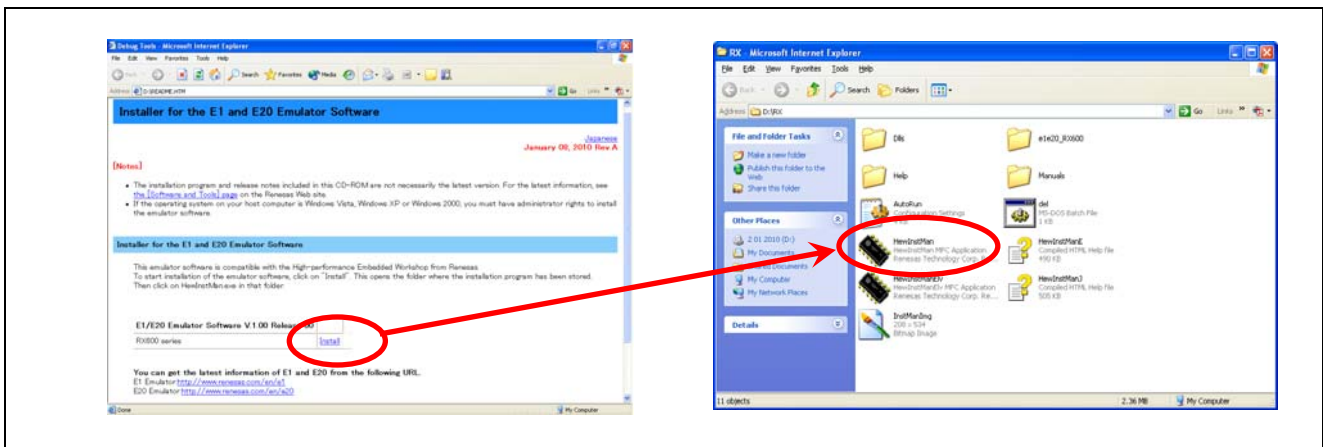

Figure 3.1 Introductory Screen for Installation
- (1) Insert the CD-ROM included in the E1 emulator package into the host computer. An HTML file giving instructions will automatically be opened (if this does not happen, open README\_E. HTM on the CD-ROM). Click on the [Install] link shown in Figure 3.1.
- (2) The contents of a folder are displayed as shown in Figure 3.1. Execute HewInstMan.exe.